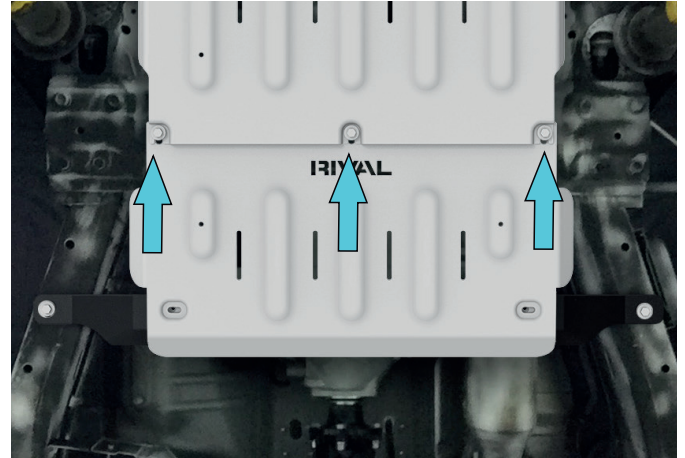

Fig. 3.2
**3.2 If RIVAL transmission skid plate is installed:** slide the front part of the transfer case skid plate under the transmission skid plate as shown in fig. 3.2.